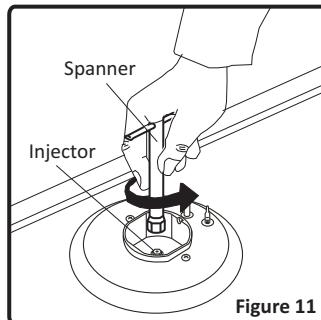

Figure 11
- Unscrew the injectors. For this, use a 7mm spanner(Figure 11).